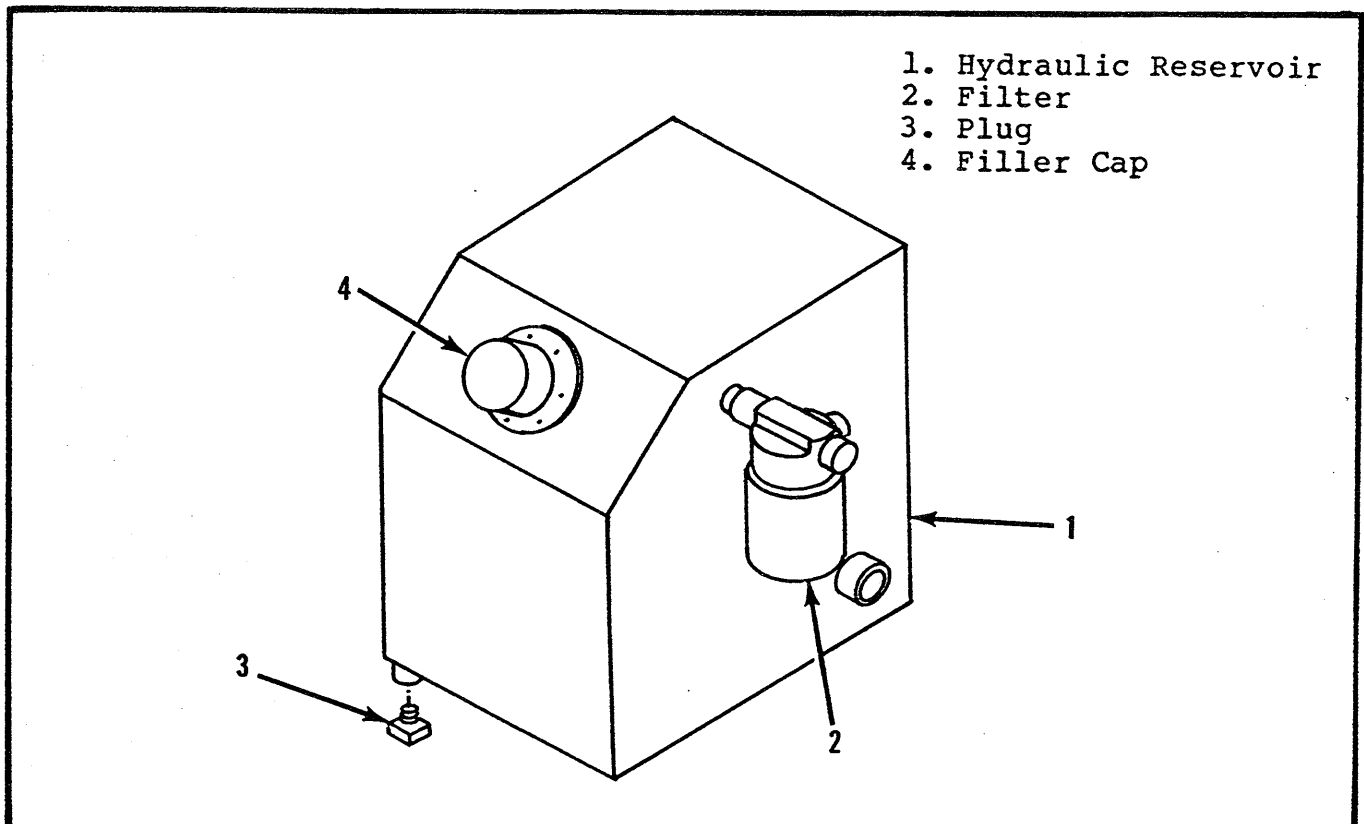

Figure 5-6. Hydraulic Oil Tank and Filter
**5-9. HYDRAULIC OIL TANK AND FILTER (Figure 5-6).**